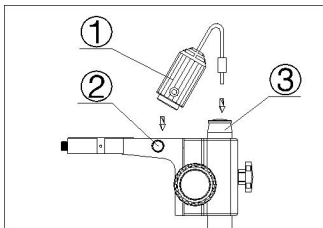

Fig.6
- 1) Insert the illumination device① in the bracket with the protrudent side toward the lock-screw② and tighten the lock-screw. (Fig.6)
- 2) Put the plug into the socket of the pillar stand③.